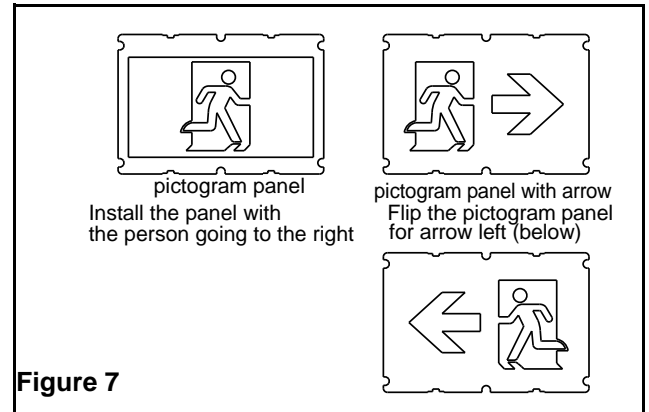

Figure 7
4. Select the desired pictogram panel and install it with the opal diffuser behind. The pictogram panel without arrow shall be installed facing right (see Figure 7).